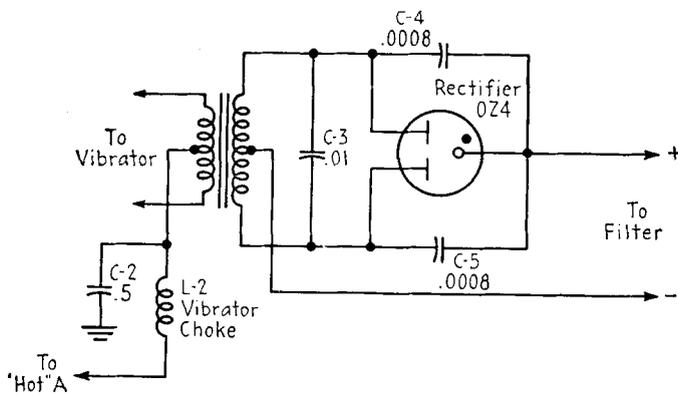

FIG. 21-10. Cold-cathode type of rectifier circuit.
**Cold-cathode rectifiers.** Some receivers use a cold-cathode type of rectifier tube, like the OZ4 and OZ4G, which do not use a filament or heater to obtain electron emission from the cathode. Instead, they contain a gas which ionizes when the AC potential is applied. The cathode of the tube is bombarded by gas ions until it emits electrons, after which the tube rectifies in the usual way. Figure 21-10 shows the circuit of the cold-cathode type of rectifier tube. The tube emits a purplish glow when it is operating.
Gas-filled rectifiers introduce an RF disturbance or hash of their own. Circuits of this type, therefore, require an extra hash filter. Condensers C-4 and C-5 serve this purpose in the circuit of Fig. 21-10. The con-